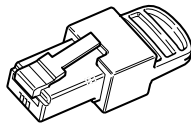

Figure 2-2 Network Terminator
- Network terminators (Figure 2-2)—the Xanbus network must be properly terminated at each end with network terminators. If the network is not properly terminated, signal quality is degraded and performance on the network is reduced. Permanent configuration without terminators is not supported by Xantrex. One terminator is included with the Gateway. Depending on your network layout, this terminator may need to be inserted into another device elsewhere in the network.